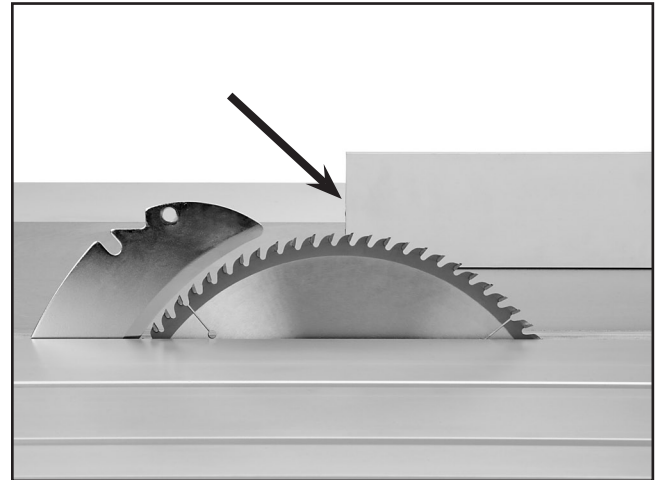

Figure 66. Rip fence even with center of blade (Blade guard removed for clarity).
4. Slide the leading end of the rip fence so it is even with the center of the main saw blade as shown in **Figure 66**. Note—*This technique allows the finished cut-off piece to “fall” away from the blade when the cutting operation is complete; reducing the possibility of kick-back.*